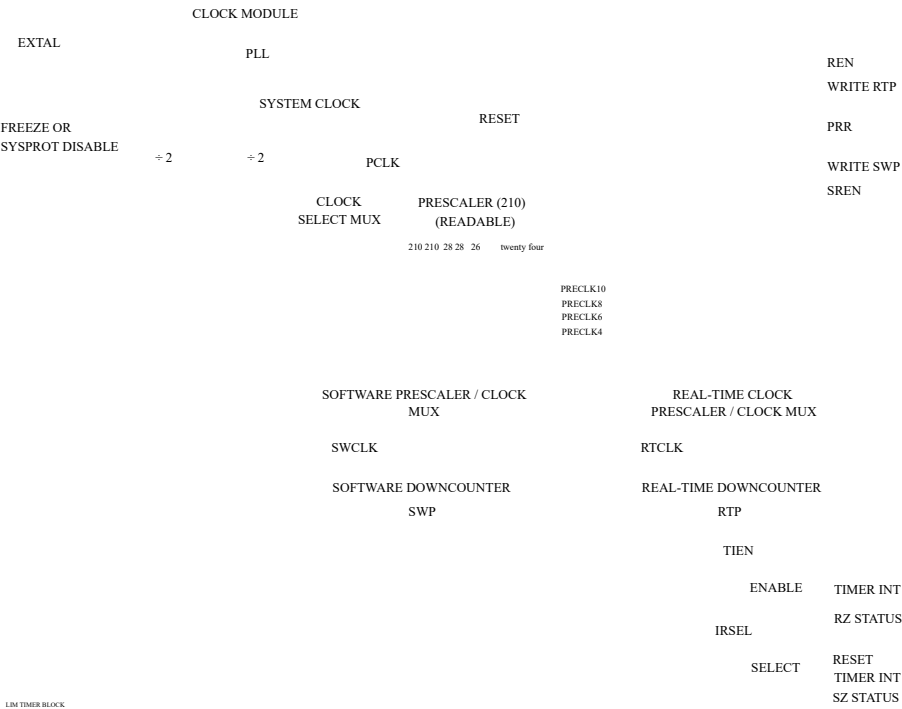

Figure 8 Software watchdog, real-time clock and prescaler
The SLIM system protection timer section contains a pair of down cows that share a system prescaler. There is an input. See Figure 8 .
- The clock source is shown in Figure 8 "S Ku and Prescaler" and Table 21 "Software Clock Control Settings".